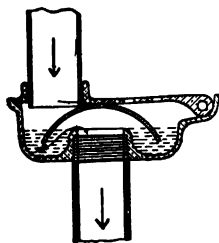

FIG. 338.—REFRIGERATOR TRAP
**348. Refrigerator Trap.** A water seal is utilized in the refrigerator trap (Fig. 338), by which water from the melted ice may pass down and out from the ice chamber, overflowing into the drip pan as the level rises inside the tube. No warm air can get back into the refrigerator because of this water seal.